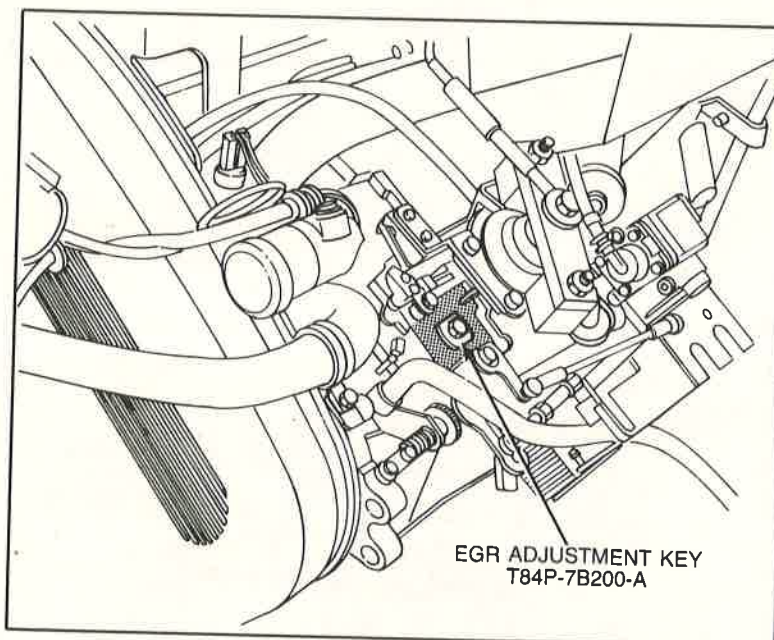

Figure 22 EGR Adjustment Key Installation
1. Install Vacuum Regulator Adjustment Key, T84P-7B200-A or equivalent, on throttle linkage, making sure slot in key fits over boss on injection pump (Fig. 22).